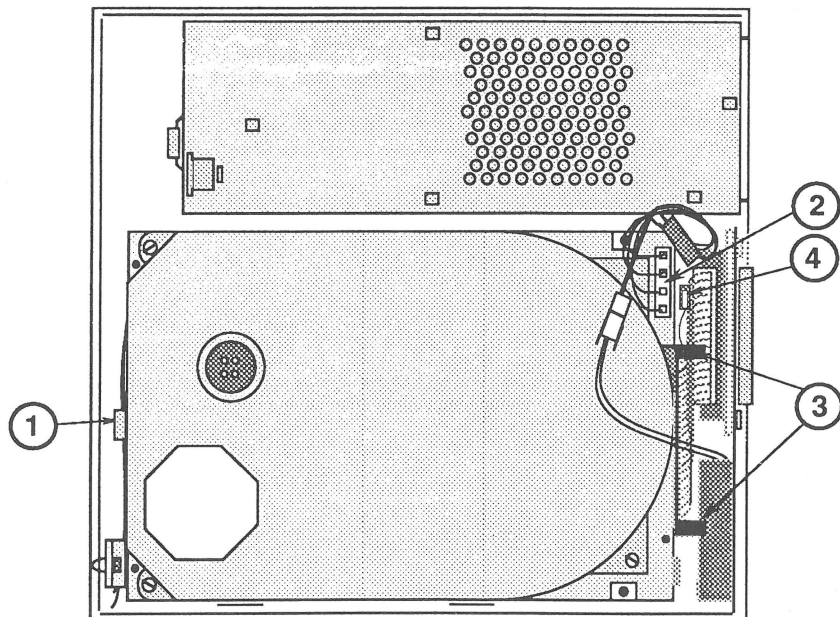

FIGURE 3
2. Push back the large tab (Figure 3, #1), slide the hard disk up, and rest it on the front edge of the case.
3. Disconnect the power supply connector (Figure 3, #2).
4. Open the end tabs (if present) on the HDA-to-case cable connector (Figure 3, #3), and disconnect the cable from the hard disk assembly.
5. Disconnect the SCSI select switch connector (Figure 3, #4).